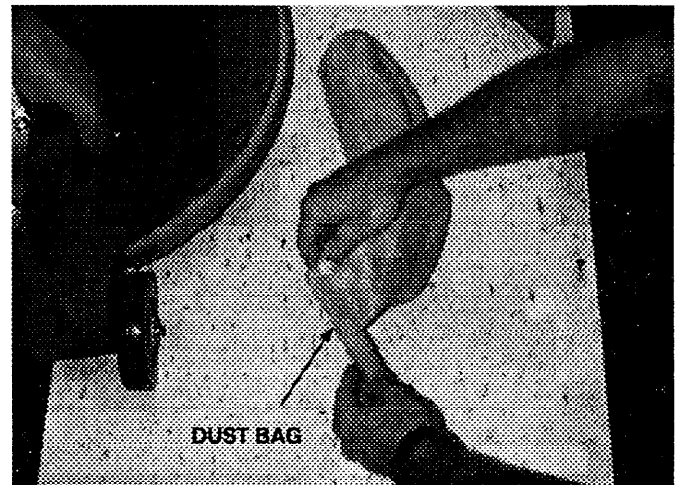

FIG. 9
2. After each use, empty dust bag. Slide off bag clip at bottom of bag and empty. (Figure 9)